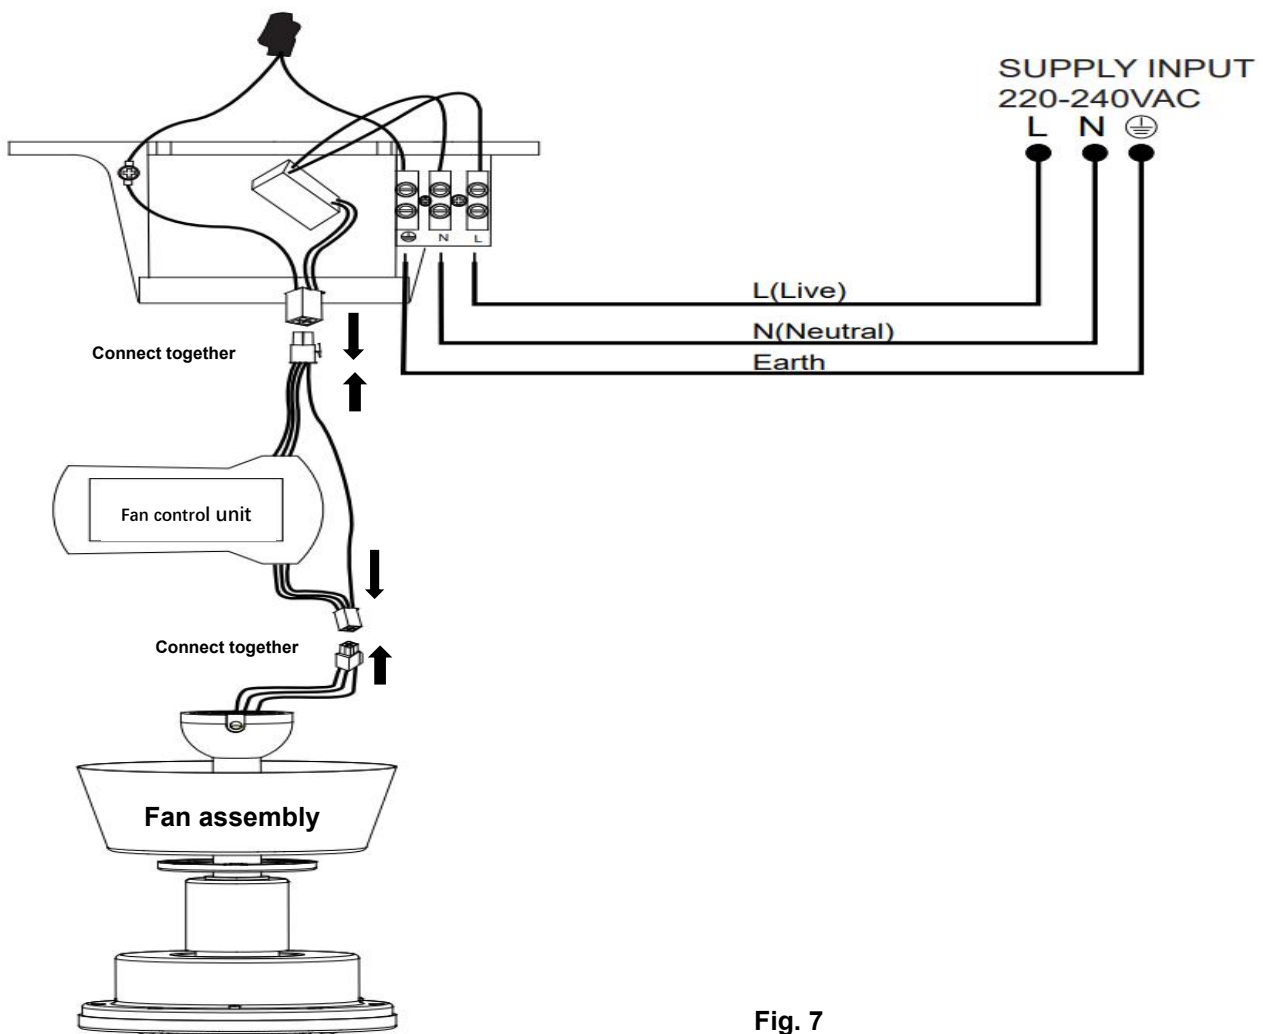

Fig. 7
**ELECTRICAL WIRING DIAGRAM THE FAN****PREPARE AND COMPLETE THE ELECTRICAL WIRING --- WIRING DIAGRAM (FIG. 7)**
**From mains supply to mounting bracket terminal block:** (Fig. 7)
**From mounting bracket to receiver and motor :** (Fig. 7)
Connect the supply wiring quick connector from the mounting bracket to the input quick connector of the fan control unit. (Fig. 7)
Connect the output wires quick connector of fan control unit to the input wires quick connector of the fan assembly. (Fig. 7)